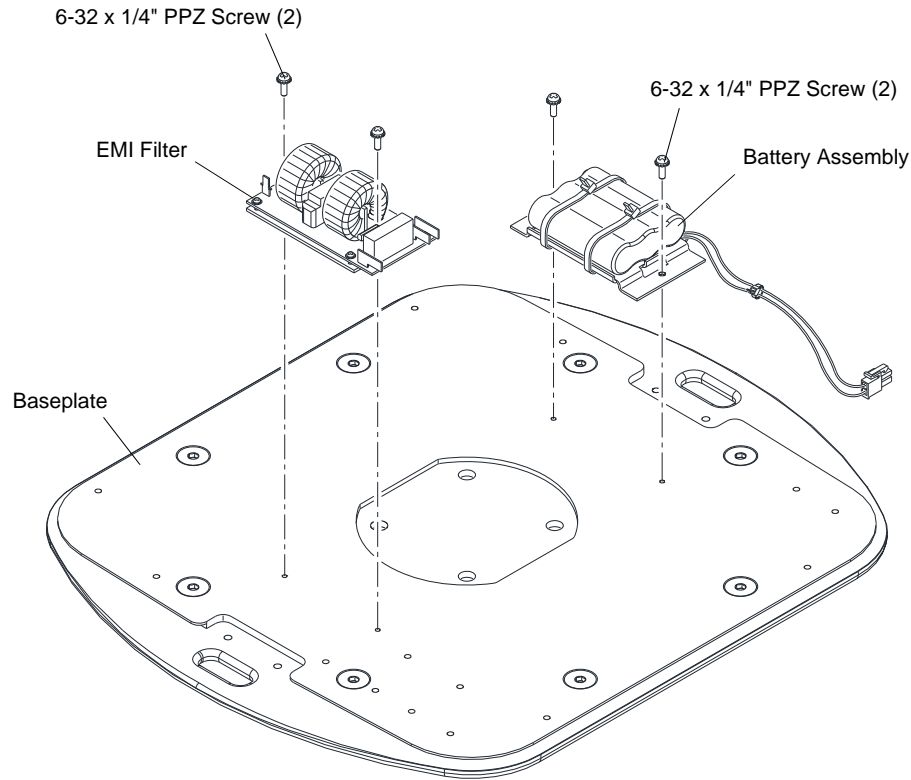

Figure 6: Disassembling Baseplate
- Step 8. Install Battery Assembly and EMI Filter on new Retrofit Baseplate (21.9812.0802). (Refer to **Figure 6**)